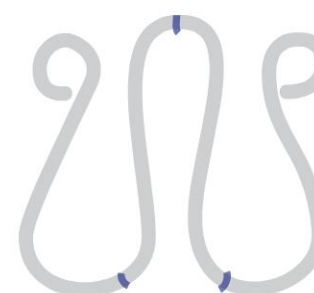

figure 3
**Use** the small end of round-nose pliers to form a simple loop on each end of the wire (Figure 3).